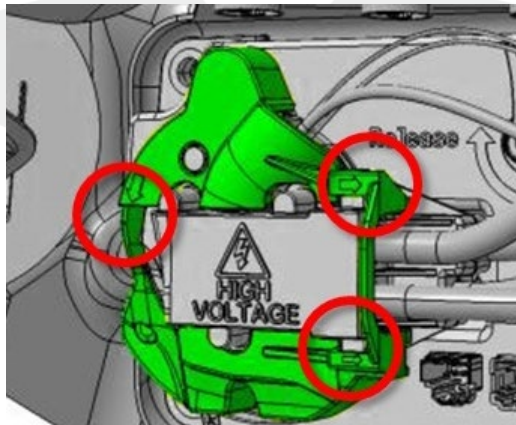

Figure 47
25. Reinstall the charge port cover to the cable connector (Figure 47).